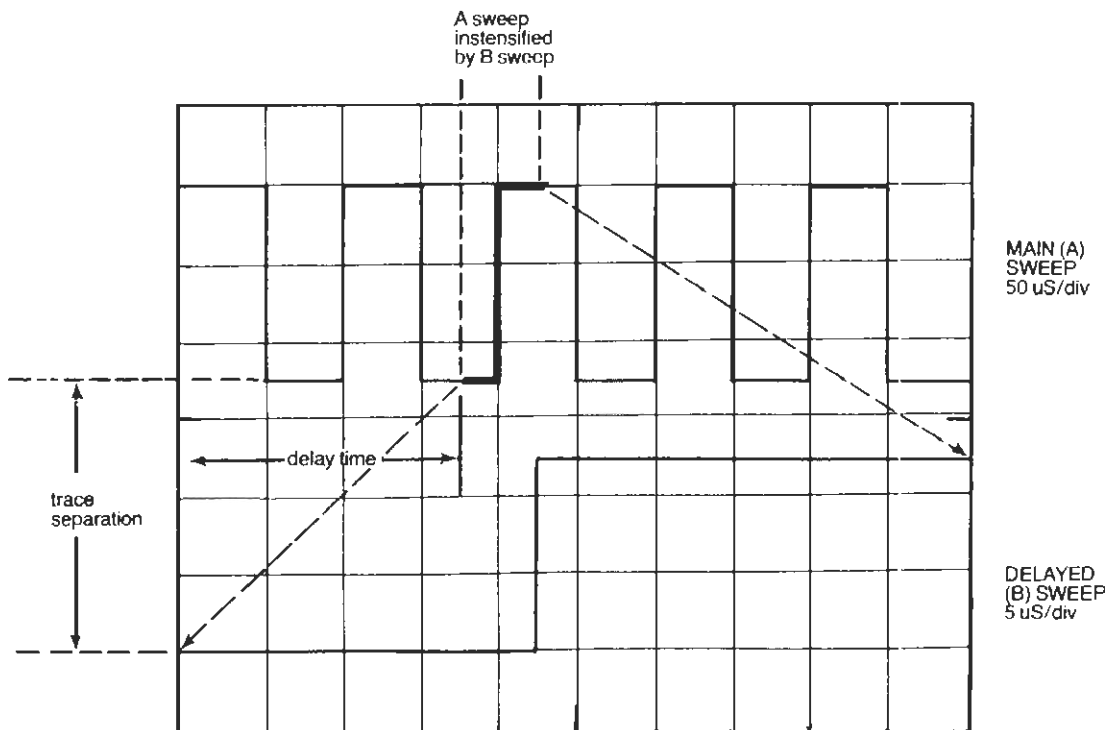

Figure 2-12. Delayed sweep display of one vertical channel
1. Adjust the VOLTS/DIV switch(es) (11) so the trace height(s) does not exceed 4 screen divisions if one vertical channel is used, or 2 screen divisions if both vertical channels are used. This is simply to ensure that there is room for all traces later.
3. Make sure the TRIG'D pushbutton (27) is out, the INTEN control (2) is turned up for a bright display, and the B TIME/DIV switch (21) is set to a faster sweep than is the A TIME/DIV switch.
4. Press the B HOR DISP pushbutton (26) while holding in the A pushbutton (i.e., both the A and B HOR DISP pushbuttons must be locked in the recessed position).
5. Use the TRACE SEP control (25) to move the delayed (B) trace(s) to the vacant area(s) above or below the main (A) timebase trace(s).
6. The section of the main (A) timebase trace(s) corresponding to the B sweep time will be brighter than the rest of the main timebase trace(s), as shown in Figure 2-12. Adjust the INTEN control if necessary for a proper display.